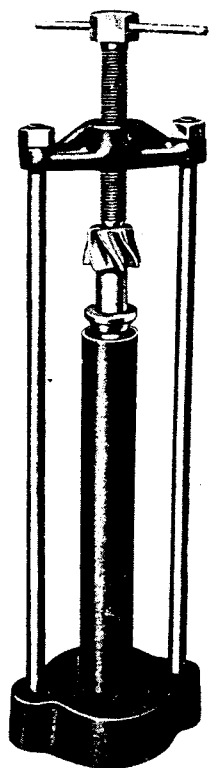

FIG. 6.
1. Mount bottom bearing inner cone on pinion shaft using Service Tool FT.36A with adapter FT.36B. Fig. 6.